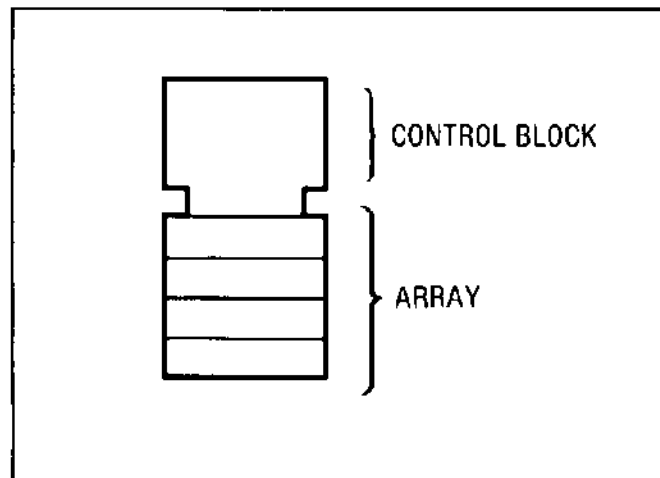
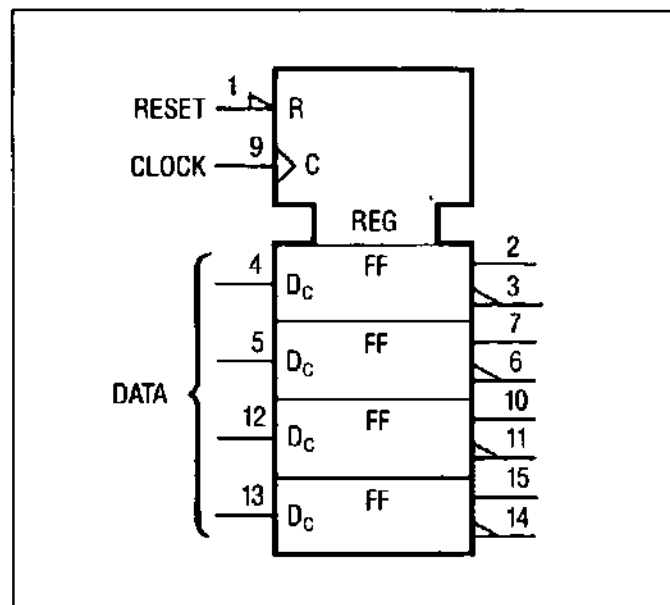
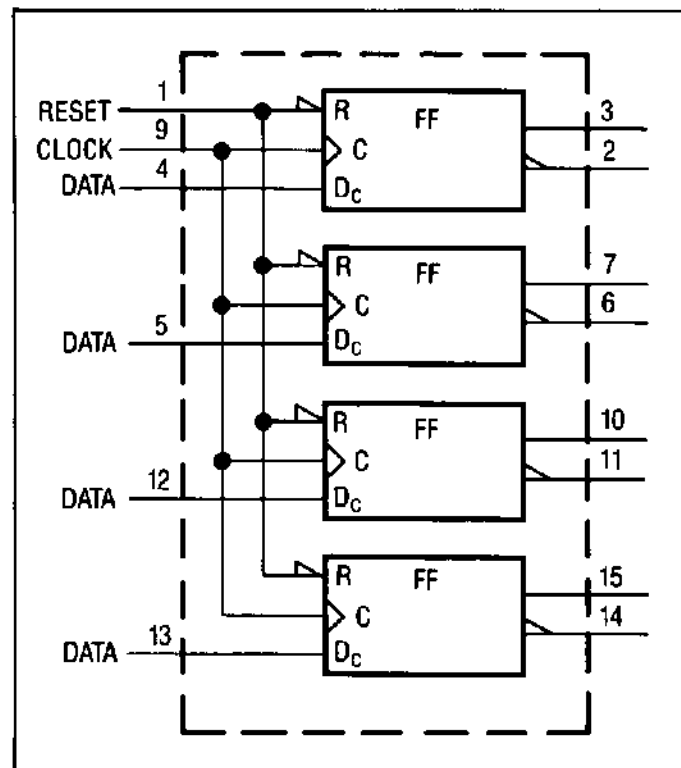

Figure 8-11. Common Control Block
Figure 8-12. Quad D-Type Latch (Combined)
Figure 8-13. Quad D-Type Latch (Individual)
**Common Control Block.** The control block is used in conjunction with an array of related symbols in order to group common logic lines. Figure 8-11 shows how the control block is usually represented. Figure 8-12 shows a quad D-type flip-flop with reset. This can be redrawn as shown in Figure 8-13. Note that the representation shown in Figure 8-13 can be used when the flip-flops are functionally scattered around the schematic (i.e., not used as a quad unit).